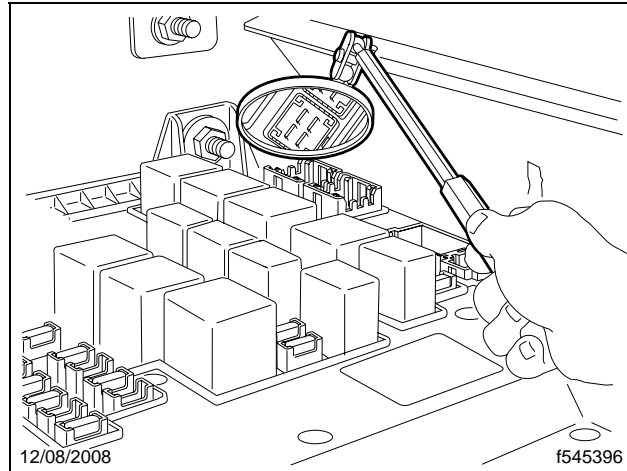

**Fig. 1, Frontwall Insulation (view from inside the cab)**
6. Make a vertical cut into the foam rubber insulation that lines the inside of the frontwall, forward of the SAM Cab. See **Fig. 1**.
7. Remove all of the insulation to the right of the cut previously made, including the section that is outboard of the dash support bracket. See **Fig. 1**.